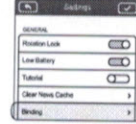
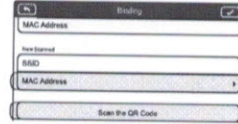

Figure 36
Figure 37
- (1) Power on the camera and Range Extender.
- (2) Approximately 30 seconds later, press the Binding Reset Button on the Range Extender with a pin until the SYSTEM indicator turns off. The Range Extender will then restart automatically.
- (3) Approximately 30 seconds later, the SYSTEM indicator will start to blink green, indicating that the Range Extender is ready for binding.
- (4) Enable Wi-Fi on your mobile device then select "Phantom_XXXXXX" (the SSID of your Range Extender) from the Wi-Fi network list.
- (5) Run the DJI VISION App then tap -> Settings -> General -> Binding (Figure 36). Select "Scan QR Code" to scan the camera QR code on the bottom of aircraft (Figure 37). Get the camera SSID (E.g. FC200_XXXX) and the MAC address (Figure 38). You can also skip the scan and enter the camera MAC address directly (Figure 39). The MAC address can be found on the camera label.
- (6) Tap the tick ☒ in the top right corner. The Range Extender should automatically restart. Binding is now complete.